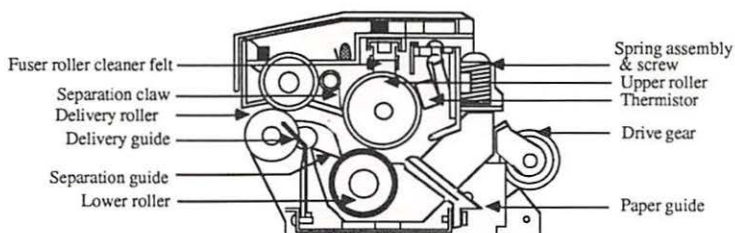

FIGURE 2-35
4. Remove the screws that hold the two pressure spring assemblies at each end of the fuser assembly. (Each spring assembly contains a white nylon bushing and a small metal sleeve.) Remove the pressure spring assemblies. (Figure 2-35)